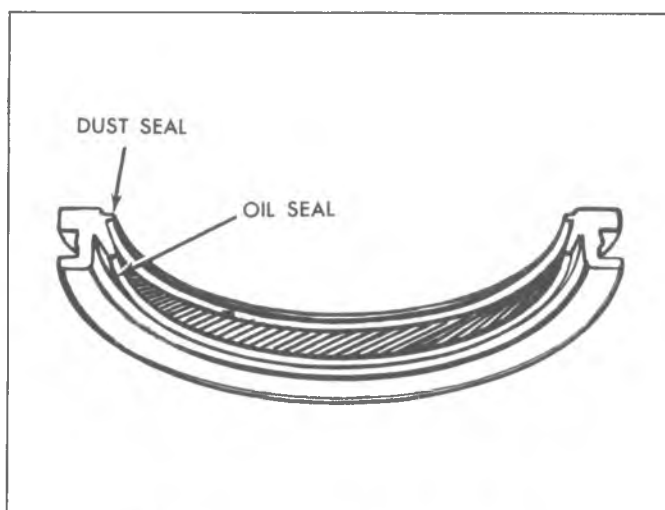

Fig. 12V—Crankshaft Oil Seal (Rear Main)
**NOTE:** Make sure that oil-seal lip is positioned toward front of engine (fig. 12V).